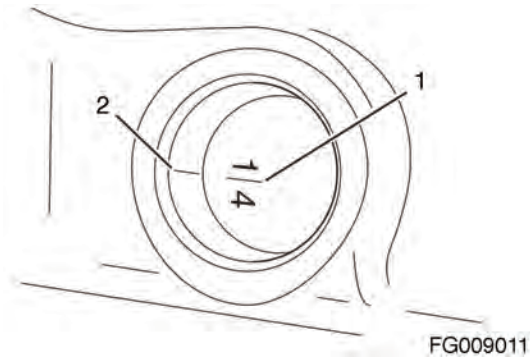

Figure 280
8. Highlight the timing reference mark (2, Figure 280) on the flywheel housing or engine back plate (2, Figure 281). Highlight the TDC (Top Dead Center) mark (1, Figure 280) on the flywheel.